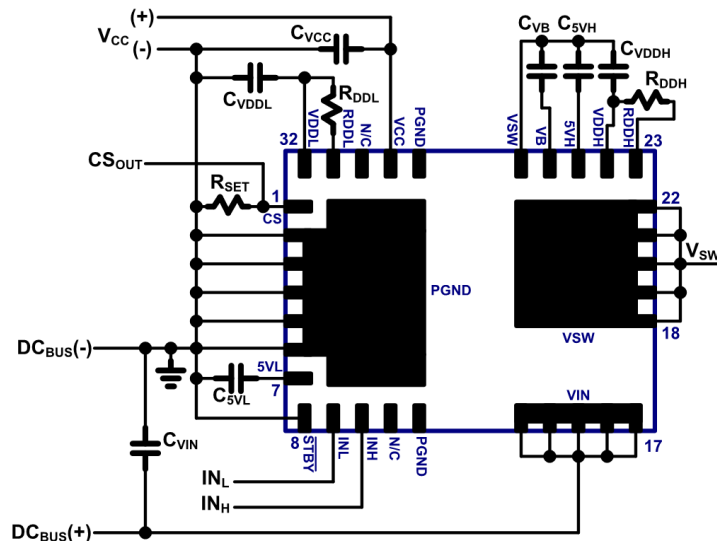

Fig. 24. IC connection diagram
The typical connection diagram for this GaN Half-Bridge IC is shown in Fig. 24. The IC pins include the drain of the high-side GaN power FET (V_{IN}), the half-bridge mid-point switched node (V_{SW}), the source of the low-side GaN power FET and IC GND (P_{GND}), low-side IC supply (V_{CC}), low-side gate drive supply (V_{DDL}), low-side turn-on dV/dt control (R_{DDL}), low-side 5V supply ($5V_L$), low-side referenced PWM inputs (IN_L , IN_H), low-side current sensing output (CS), auto-standby enable input ($\overline{STBY}$), high-side supply (V_B), high-side gate drive supply (V_{DDH}), and high-side 5V supply ($5V_H$). The external low-side components around the IC include V_{CC} supply capacitor (C_{VCC}) connected between V_{CC} pin and P_{GND} , V_{DDL} supply capacitor (C_{VDDL}) connected between V_{DDL} pin and P_{GND} , turn-on dV/dt set resistor (R_{DDL}) connected between V_{DDL} pin and R_{DDL} pin, current sense amplitude set resistor (R_{SET}) connected between CS pin and P_{GND} , 5V supply capacitor (C_{5VL}) connected between $5V_L$ pin and P_{GND} , and the auto-standby enable pin ($\overline{STBY}$) connected to P_{GND} to enable auto-standby mode or connected to $5V_L$ to disable auto-standby mode. The external high-side components around the IC include V_B supply capacitor (C_{VB}) connected between V_B pin and V_{SW} , V_{DDH} supply capacitor (C_{VDDH}) connected between V_{DDH} pin and V_{SW} , turn-on dV/dt set resistor (R_{DDH}) connected between V_{DDH} pin and R_{DDH} pin, and 5V supply capacitor (C_{5VH}) connected between $5V_H$ pin and V_{SW} . The high side V_B , $5V_H$ and V_{DDH} bypass capacitors must be chosen carefully to accommodate various system considerations such as high side wake up time, high side hold up time and standby power.